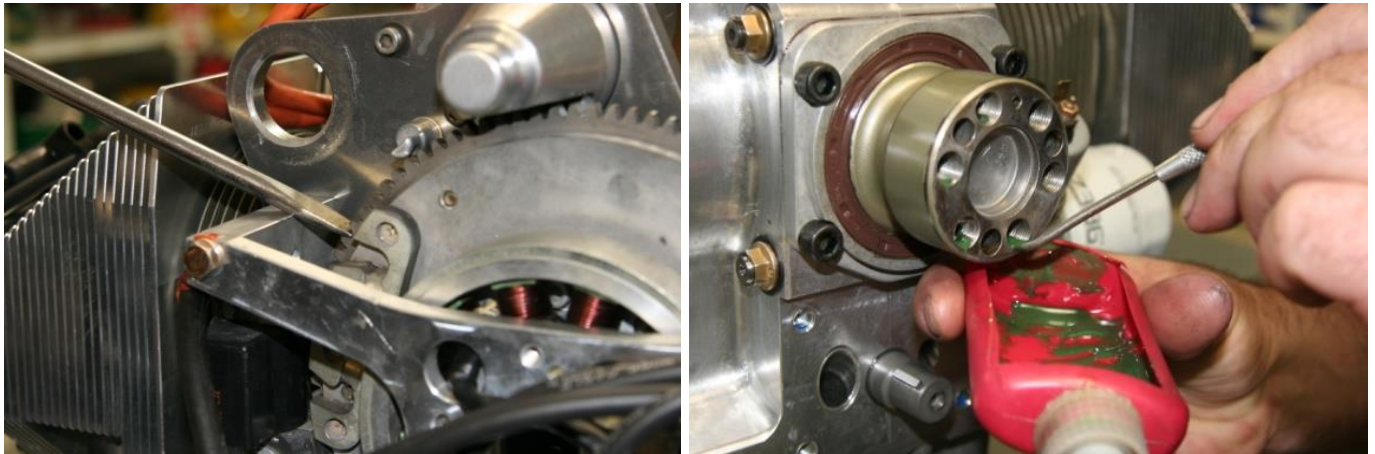

Figure 206 – Preparing To Fit Propeller Flange
- Fill the seal with high temperature grease or commercial seal lube and fit the housing to the engine as shown in Figure 206 (right). Note the orientation of the housing. Use 4 off 5/16" cap screws with Loctite 243 on the threads. Note that earlier engines used 1/4" screws. Either type assembly is acceptable.
Apply the same amount (approximately the size of a large match head) of Loctite 620 to the threads in the crankshaft. Apply the compound as shown in Figure 206: Use a scribe or small probe to apply the Loctite to the threads inside the crankshaft. Apply in the range 1 – 6mm from the front face of the crank.